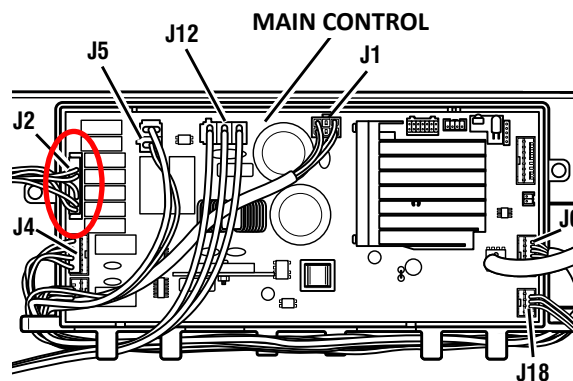

Figure 2
7. Lower the top panel and disconnect the Water Inlet Valve connector "J2" from the Main Control (see Figure 2).